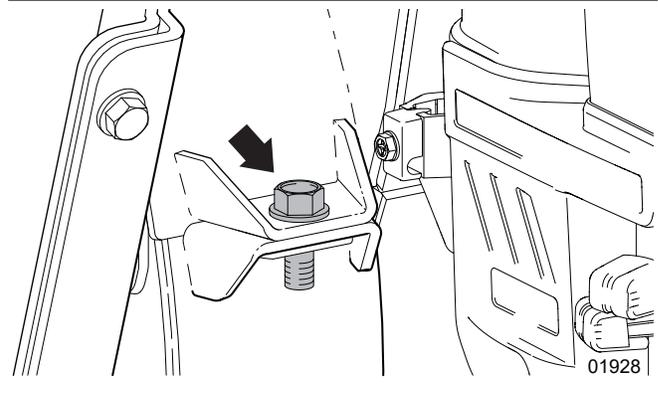

Fig. 20—Upper-rotor-housing bolt
7. Install the upper-housing retainer bolt. See Fig. 20.